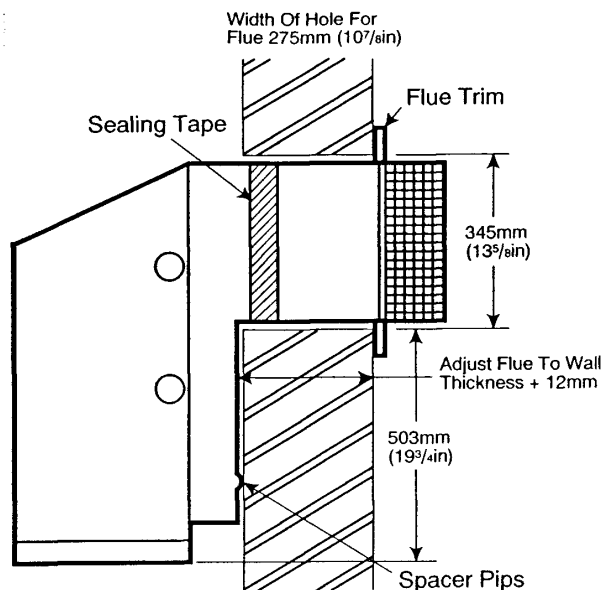

fig 1 - Flue Assembly
- 3) Select the most suitable position for the boiler (Figs 1 & 4).
Tape the joint between the flue terminal assembly and the air duct (Fig. 1).
- 7) Manoeuvre the boiler into position until the two spacer pips behind the air inlet duct touch the wall (Fig. 1).
- 11) Fit the outer case as described in 'Outer Case' items 1 to 5.
- 14) Complete the assembly of the outer case as described in 'Outer Case' items 6, 7 and 8.